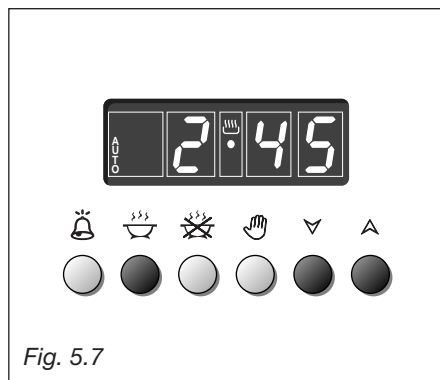

Fig. 5.7
1. Set the length of the cooking time by pushing the  button and the  button to advance, or  to go backwards (Fig. 5.7). This sets the desired “stop” time.